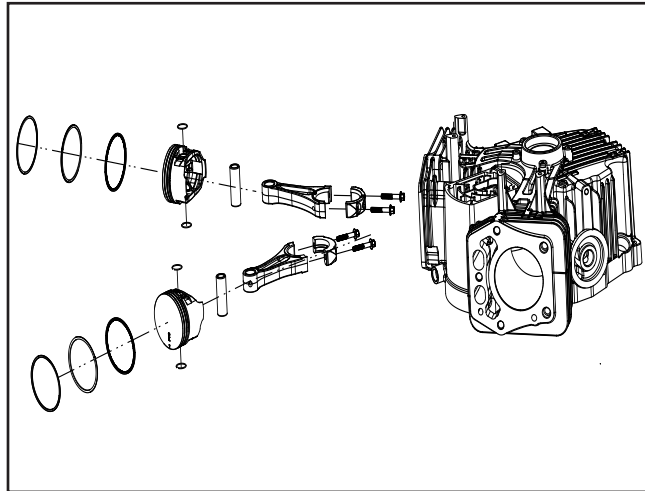

Figure 39
1. Remove the connecting rod cap bolts and cap for each rod (Figure 39).